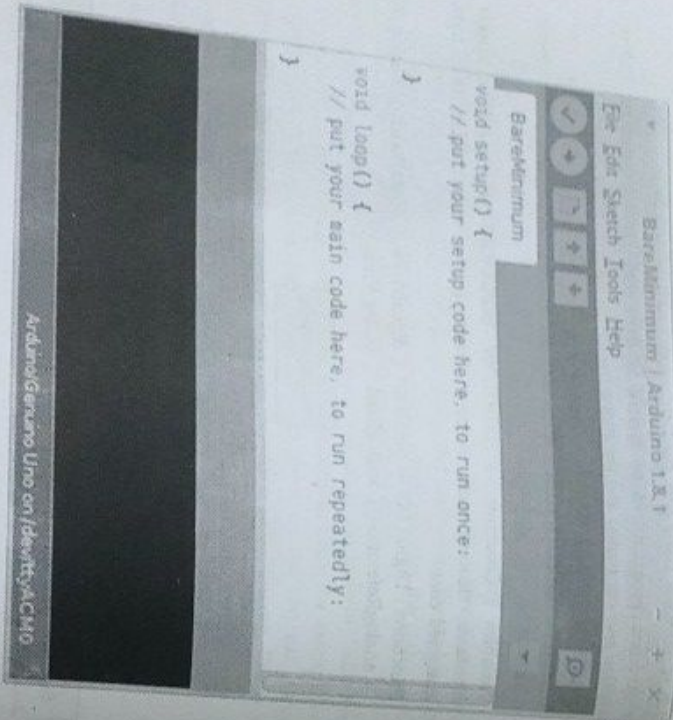

Fig. 5.5.2 Arduino sketch structure
- Fig. 5.5.2 shows basic Arduino Sketch Structure.